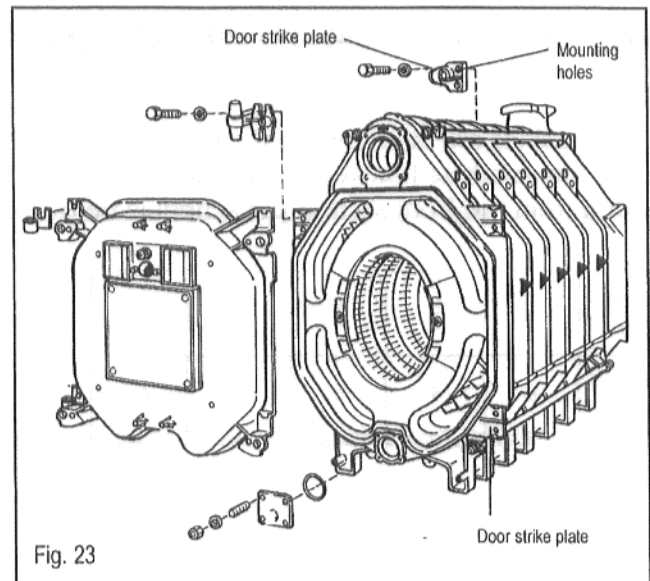

Fig. 23
- Mount the two door strike plates on the front section, with (2) M12x55 bolts each on the opposite side from the door hinge supports (Fig. 23). The strike plates must always be pointing towards the center of the boiler.